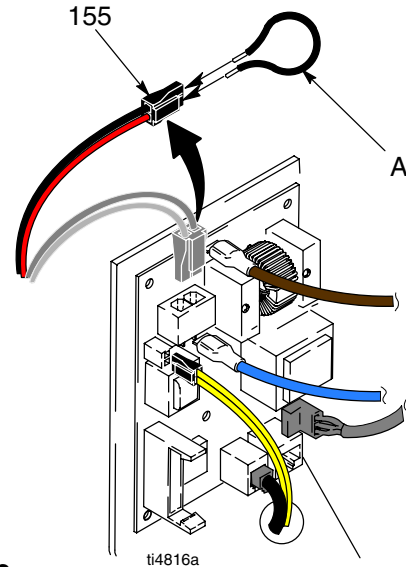

Fig. 2
4. Fig. 2. Disconnect wire harness (155) from control board.